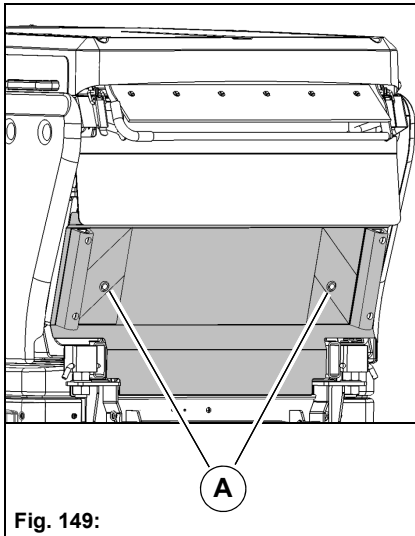
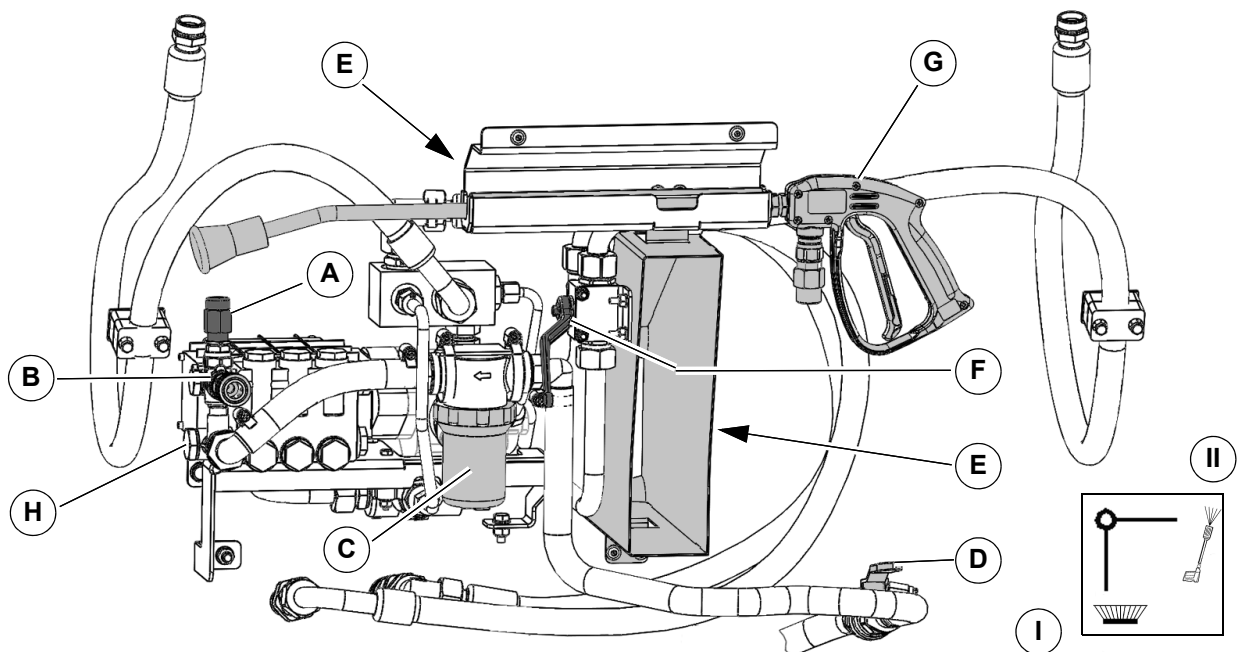

Fig. 149:
Fig. 150:
The high-pressure cleaner **Fig. 150-H** is located behind the rear flap of the dirt hopper. Check the following before starting up:
- Check the water filter **Fig. 150-C** of the high-pressure cleaner and clean it if necessary.
1. Start the vehicle and drive to the work site. Engage the parking brake. Open the flap **Fig. 149-A**. Remove the pressure hose from the hose holder and plug it on at the connection **Fig. 150-B**.
2. Set the changeover valve **Fig. 150-F** to the high-pressure cleaner position.
3. Open the fresh water supply **Fig. 150-D**.
5. Set the pressure controller **Fig. 150-A** to the required working pressure.
6. Clean the surface with the lance **Fig. 150-G**.
7. Reset the changeover valve to the suction fan position and close the fresh water supply again. After cleaning stow the lance and the pressure hose back in the stowage **Fig. 150-E**.